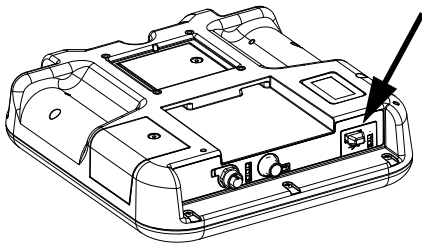

FIG. 4: ADM USB Port
1. Insert USB flash drive into USB port. See FIG. 4.